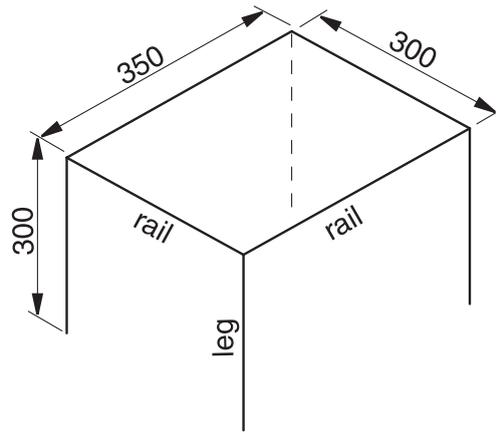

Fig. 7
- 7 Fig. 7 shows the basic frame of a low foot stool together with the main sizes.